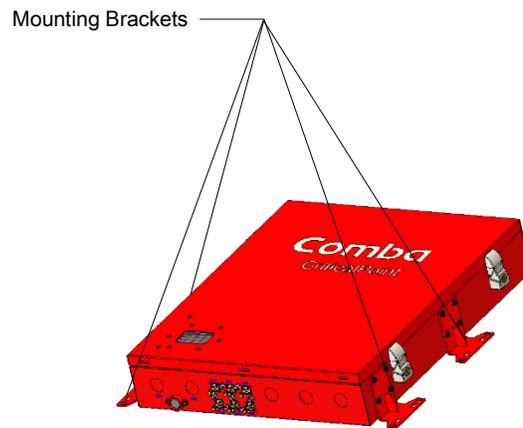

Figure 53: V2 FOU Installing and Adjusting Mounting Brackets
- Remove the two mounting brackets that come attached to the V2 FOU from the factory, adjust the direction according to Figure 53, and install the remaining 2 mounting brackets from the accessories kit.